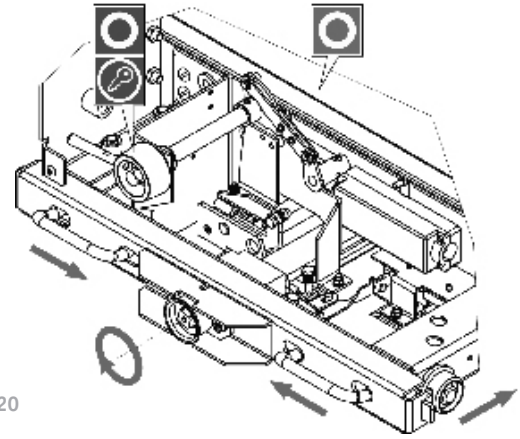
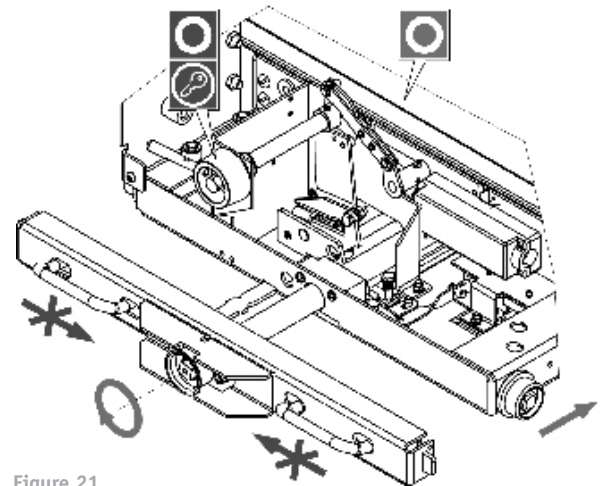

Figure 20
Figure 21
- When the interlocking knob is in locked position (Fig.20, Fig21) the interlocking system is in “Locked” position. In this position the ISM can not be closed (electromechanical interlocks) and the draw-out unit can be moved.
**Position A (Fig. 20)**
**Position B (Fig. 21)**